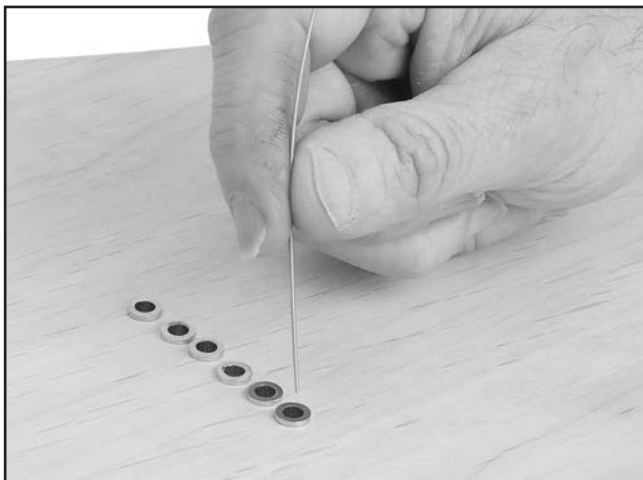

Figure 29. Example of threading string through ferrule.
1. If you installed ferrules, thread the 1st string through the ferrule as shown in **Figure 29**.